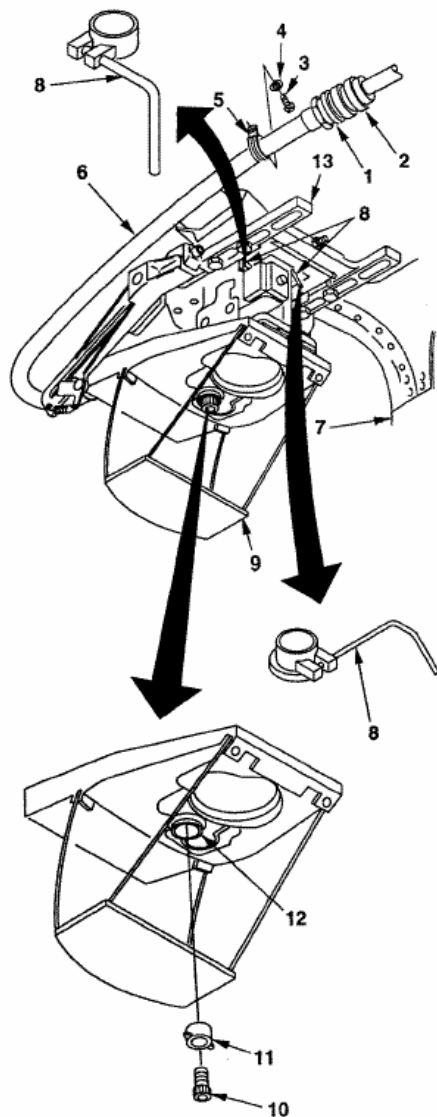

Figure 5
f. Removal of the PDU. (If installed.) (See Figure 5.)
(1) Disconnect electrical connector (1) from helicopter disconnect (2).
(2) Remove screw (3), washer (4), and clamp (5) securing PDU electrical cable (6) to cockpit overhead (7).
(3) Loosen height adjustment lock release levers (8) and adjust PDU (9) to gain access to cap screw (10) and down stop (11).
(4) Lock PDU (9) in position.
(5) Remove cap screw (10) and down stop (11) from front mount post (12).
(6) Loosen height adjustment lock release levers (8) and remove PDU (9) from mount assembly (13).